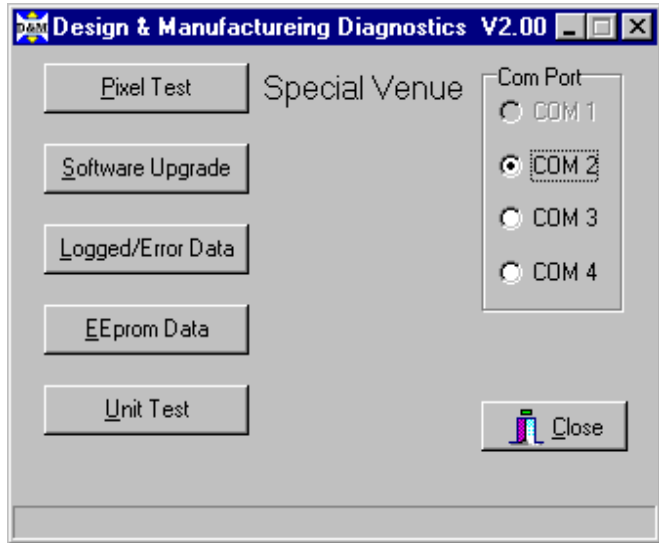

Figure 6
2. Pick the Software Upgrade Button (figure 6).
6. Pick the EEPROM Data Button (Figure 6).